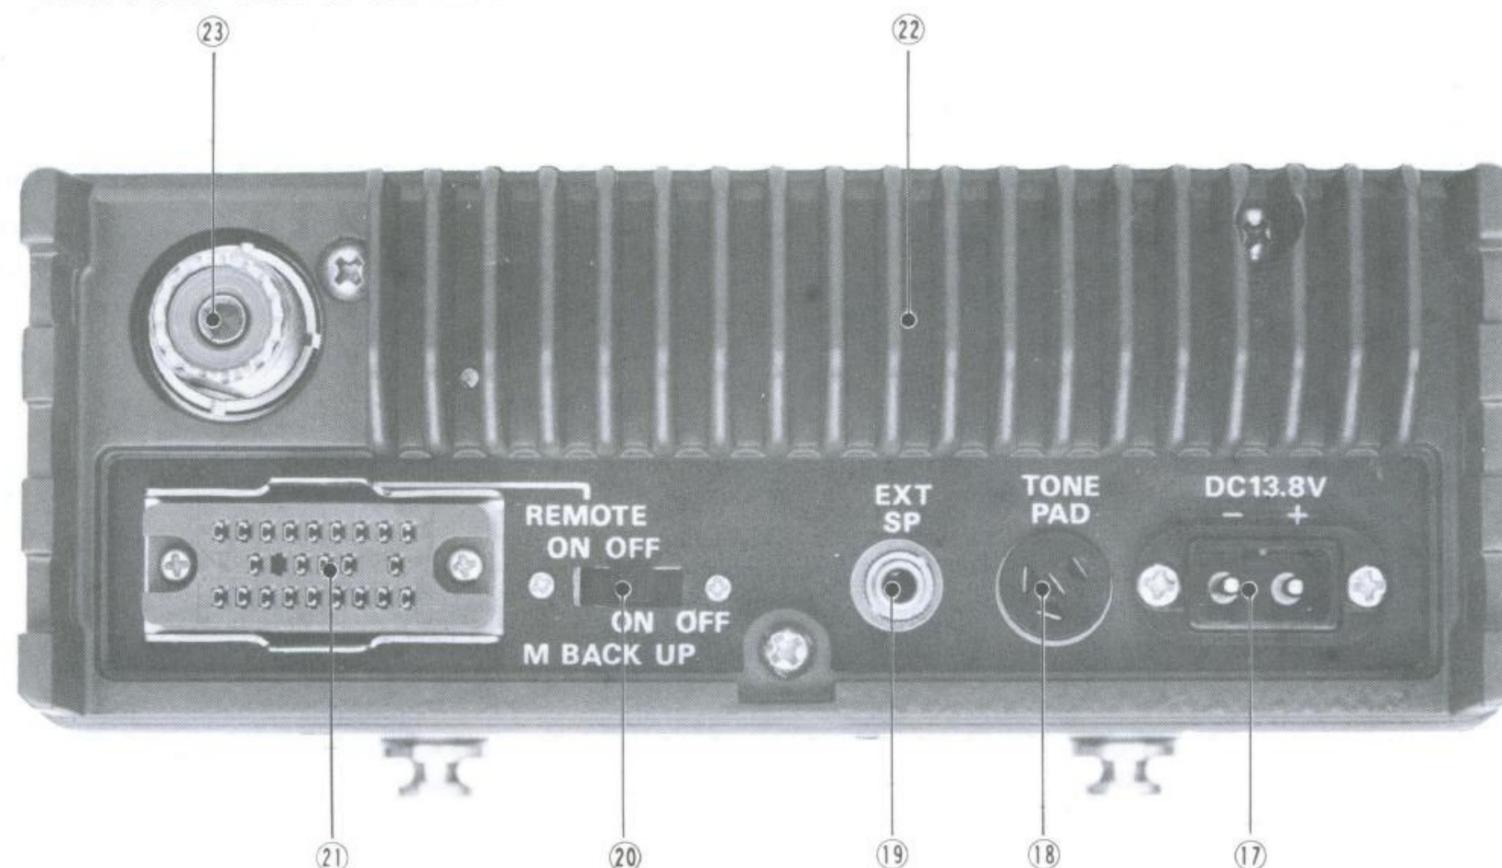

Fig.2-2 Rear Panel View
2.2 REAR PANEL (Refer to Fig. 2-2)**17 DC Power Connector**